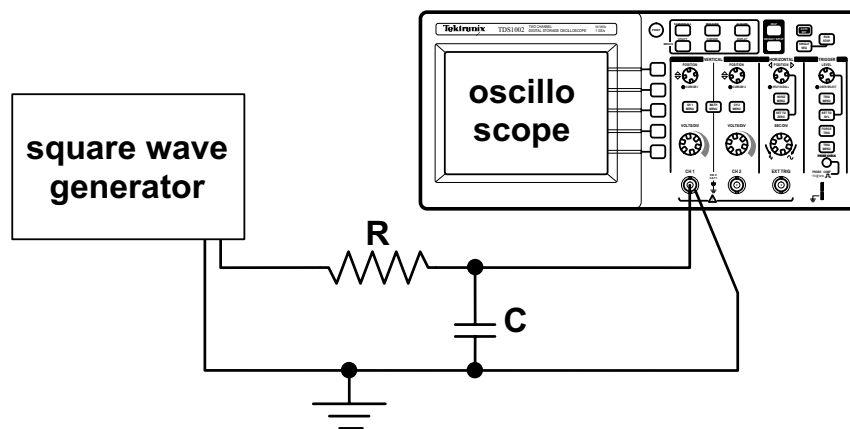

Figure 2: Measuring the characteristics of a RC network
1. Wire the circuit of Fig. 2 using the circuit board. Be careful to connect the GROUND terminal of the signal generator to the GROUND terminal of the oscilloscope. If in doubt, consult your instructor. Turn on the signal generator and increase the amplitude until you see a pattern with an amplitude of about 5 divisions on the oscilloscope.